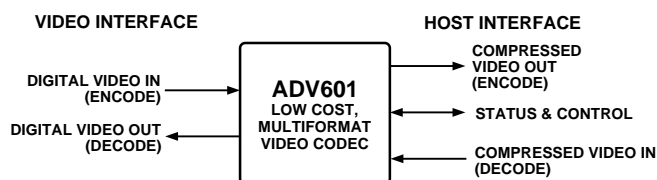

Figure 1. Functional Block Diagram
The ADV601 accepts component digital video through the Video Interface and outputs a compressed bit stream through the Host Interface in Encode Mode. While in Decode Mode, the ADV601 accepts a compressed bit stream through the Host Interface and outputs component digital video through the Video Interface. The host accesses all of the ADV601's control and status registers using the Host Interface. An optional Digital Signal Processor (DSP) may be used for calculating quantization Bin Widths (BW) (instead of the host); the ADV601 sends current field statistics and receives Bin Width results as a packet I/O over the DSP serial port interface. A generic fixed-point DSP (for instance the ADSP-2105) is more than adequate for these calculations. Figure 1 summarizes the basic function of the part.